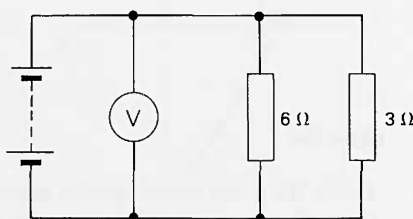

Figure B62
**10(L)** Thick wires conduct better than thin ones. Because a thick wire could be thought of as several thin ones side by side, it is useful to begin thinking about the effects of thickness by considering resistors connected side by side, in parallel. A p.d. of 12 volts drives current through two resistors in parallel as in figure B62.